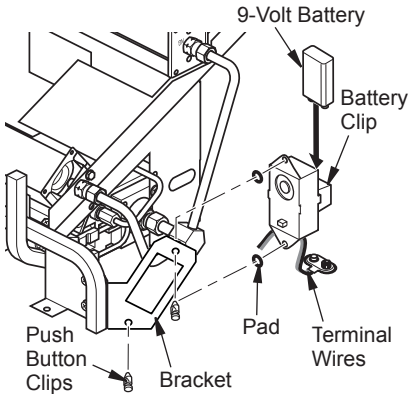

Figure 20 - Installing Remote Receiver
8. Install remote receiver into receiver bracket using pads and push button clips provided with receiver (see Figure 20, page 17).
2. Locate the battery clip mounted on the back of the receiver (see Figure 20).